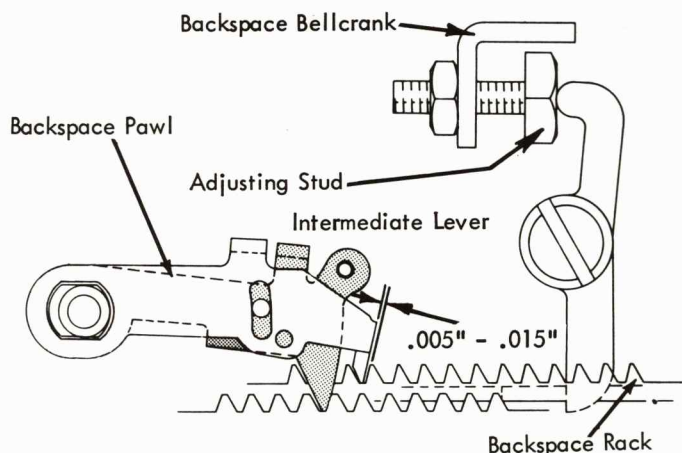

FIGURE 138. Backspace Rack Adjustment
3. **Backspace Rack** - With the backspace rack in the rest position, a clearance of .005" to .015" should exist between the working surfaces of the rack tooth and the backspace pawl (Fig. 138). Adjust the hexagon headed screw in the backspace bellcrank to obtain this condition.